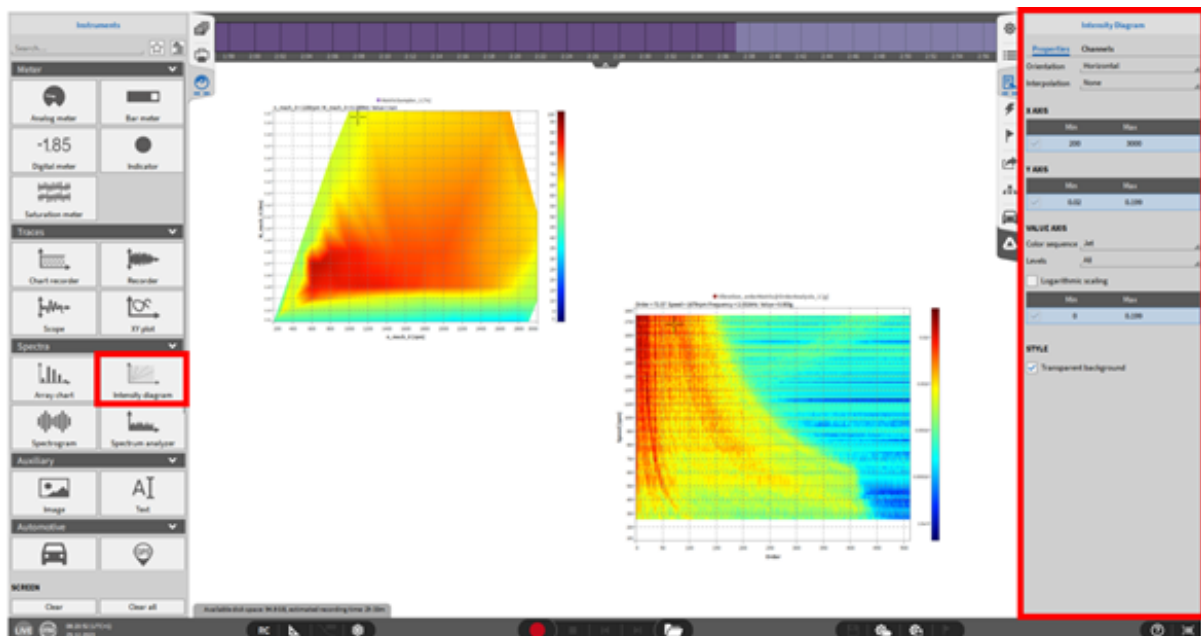

Fig. 8.49: Intensity Diagram instrument - overview
- Select levels to have a more defined grading in the matrix. Select the number of levels which should be defined with a black border. The matrix on the left in Fig. 8.49 shows no grading and the matrix on the right has a 10-level grading.